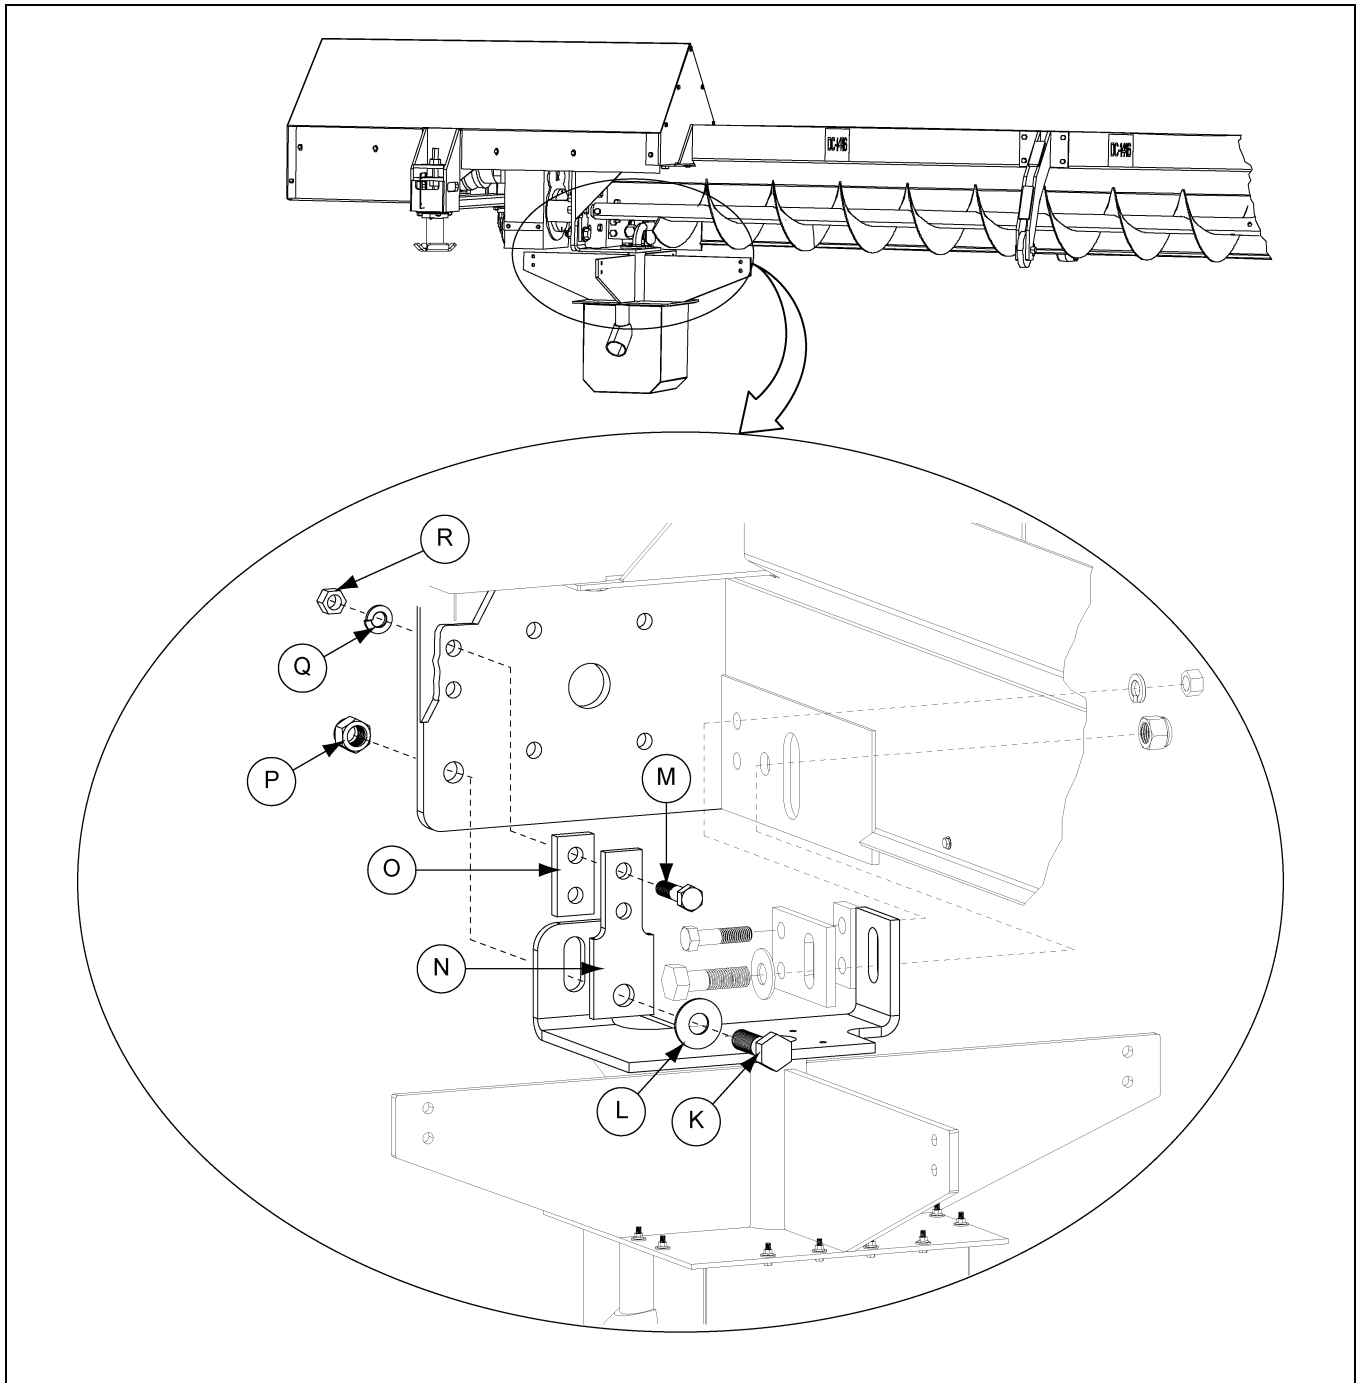

Figure 7D
2. Install hex bolts (K and M), flat washer (L), bracket (N), spacer (O), lock washer (Q), lock nut (P) and hex nut (R). (See Figure 7D.)